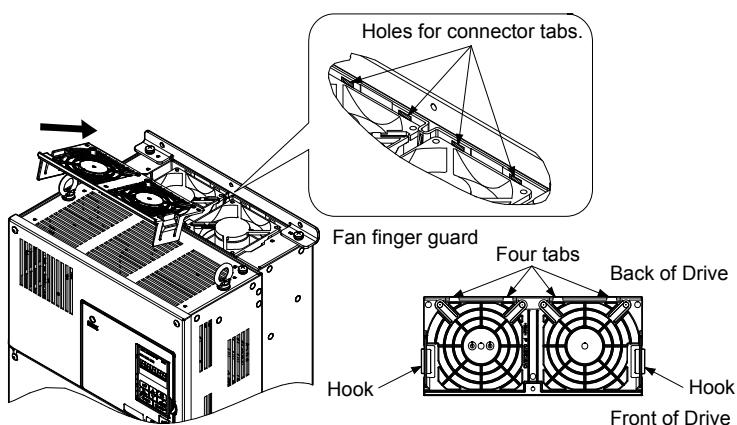

Figure 7.18 Reattach the Fan Finger Guard: 4A0088 and 4A0103
3. Angle the fan finger guard as shown in Figure 7.18 and insert the connector tabs into the corresponding holes on the drive.